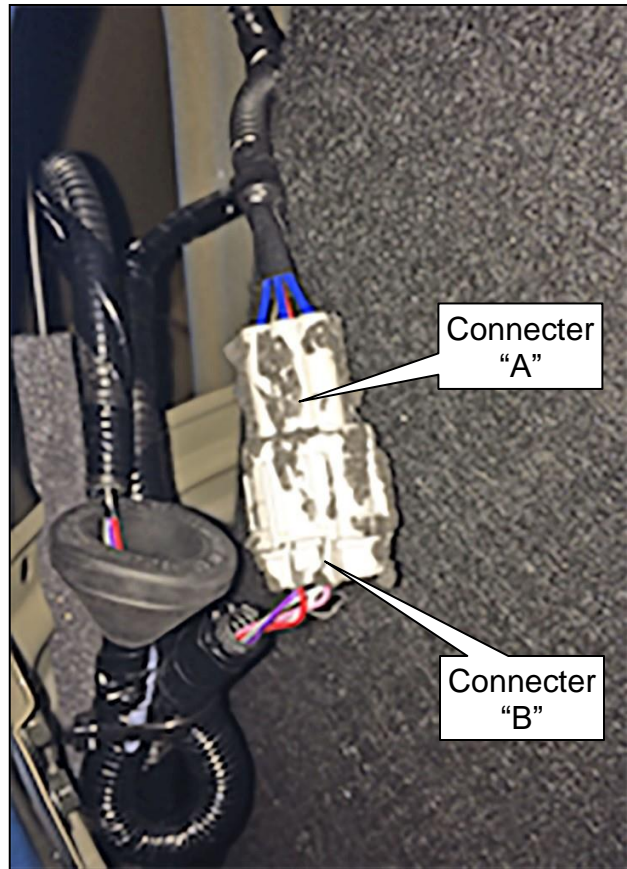

Figure 23
25. Reconnect the inside connector, connect "Connector A" to "Connector B" as shown in Figure 23.